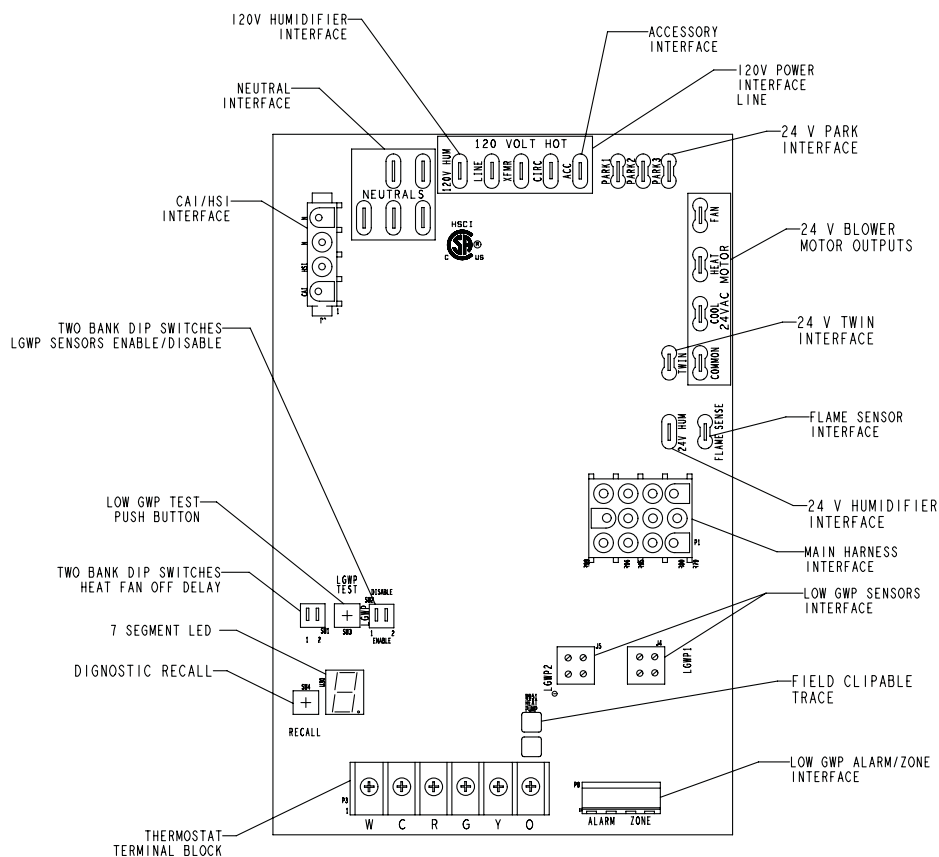

Figure 3.
4. Ignition Control 107792-XX (Figure 3)
One line voltage “**HUM**” 1/4” spade terminal is provided on the furnace integrated control. See **Figure 3** for integrated control configuration. This terminal is energized in the heating mode when the combustion air inducer is operating. Any humidifier rated up to one amp can be connected to this terminal with the neutral leg of the circuit being connected to one of the provided neutral terminals. If a humidifier rated at greater than one amp is connected to this terminal, it is necessary to use an external relay.
ON BOARD LINKS (Figure 4 AND Figure 5) AND DIAGNOSTIC PUSH BUTTON (Figure 3)
The hot surface ignition control system consisting of an integrated control (**Figure 3** with control terminal designations in **Table 1**, **Table 2**, **Table 3**), sensor and ignitor. The integrated control and ignitor work in combination to ensure furnace ignition and ignitor durability. The integrated control, controls all major furnace operations. The integrated control also features a **RED LED** for troubleshooting and two accessory terminals rated at (1) one amp. See **Table 4**. for troubleshooting diagnostic codes. The nitride ignitor is made from a non-porous, high strength proprietary ceramic material that provides long life and trouble free maintenance.